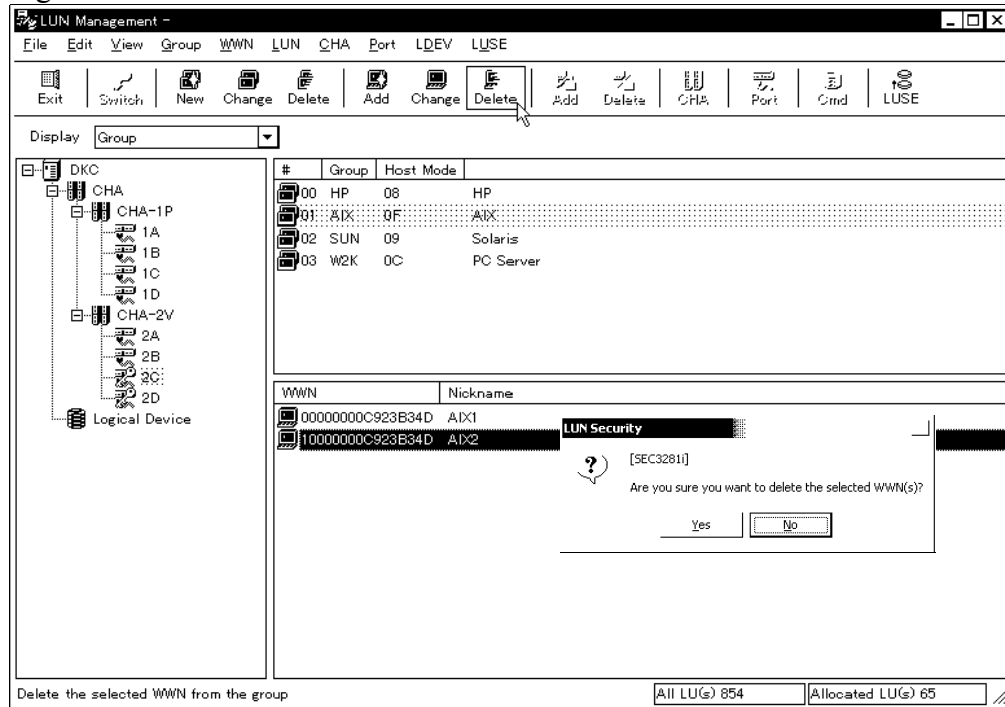

Figure 4.3.1 Main Window
- ① Select (CL) a WWN you want to delete from the lower right list.
- ② Select (DR) [Delete] from the [WWN] menu in the Main window (Figure 4.3.1).
- ③ Since a message asking for a confirmation is displayed, select (CL) the [OK] button.
- ④ The WWN that has been selected from the lower right list is deleted.